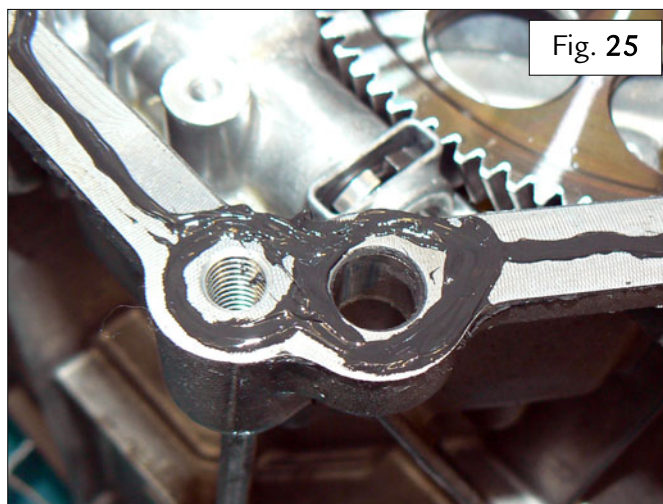

Fig. 25
- Apply a continuous bead of **Loctite 5970** around the holes in the outer mating surface of the differential housing, on the connector casing side, as shown in the photo aside – Fig. 25.